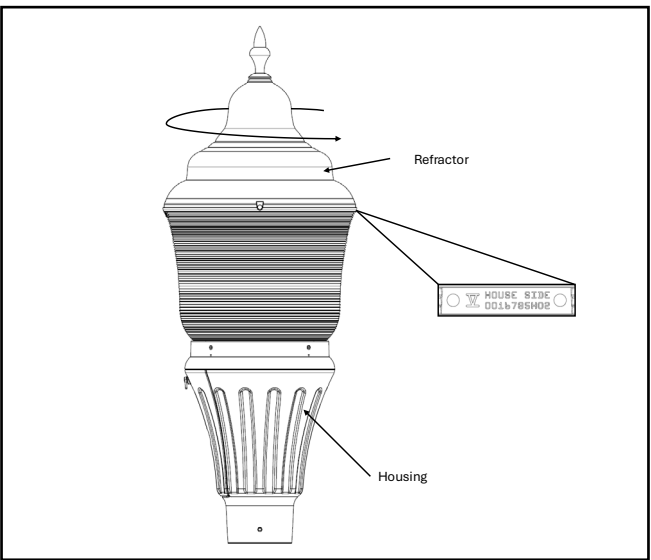

Figure 5.
9. If Fairfax refractor is used, rotate the refractor until "HOUSE SIDE" marking on the refractor is positioned directly opposite the access door. (Figure 5)